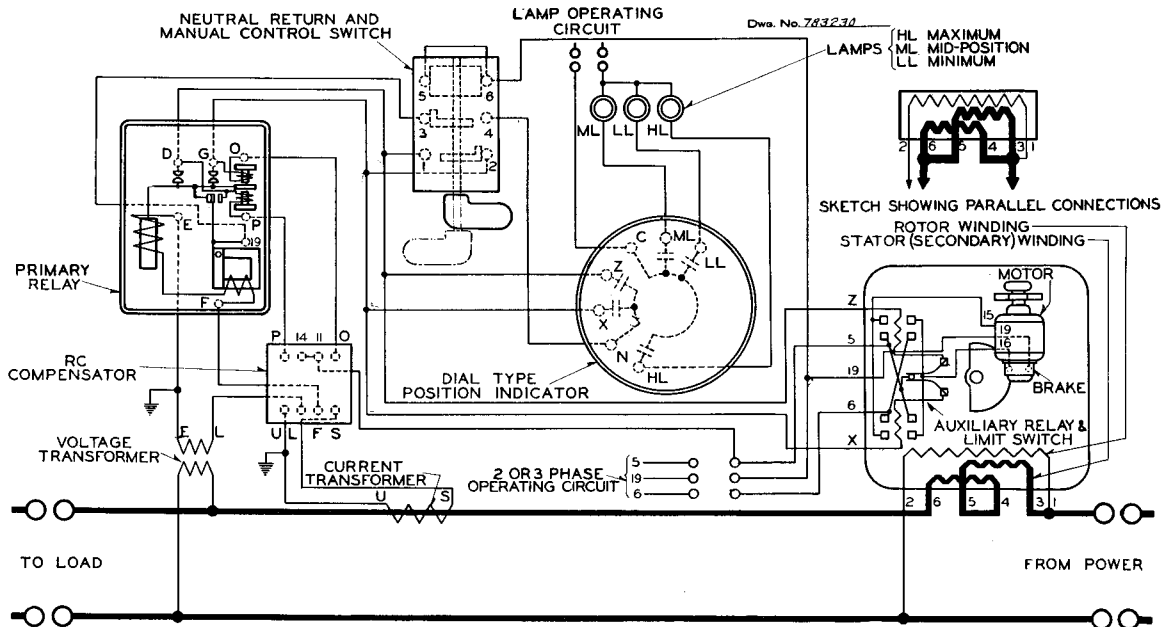
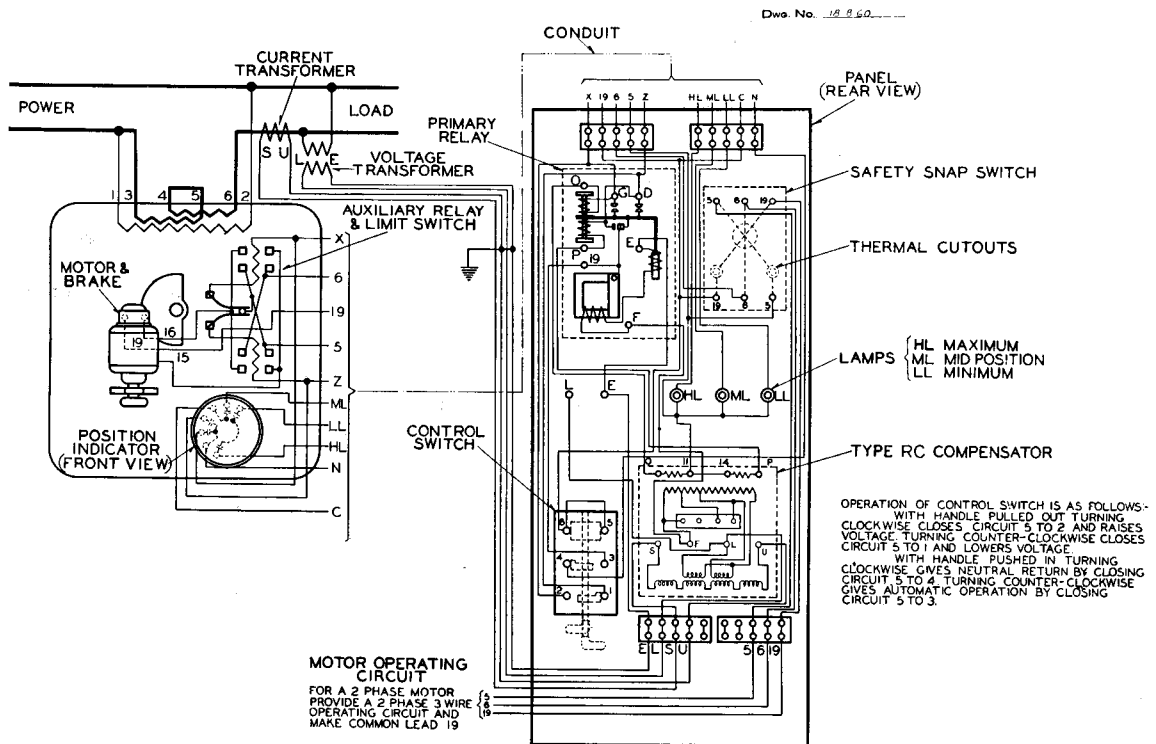
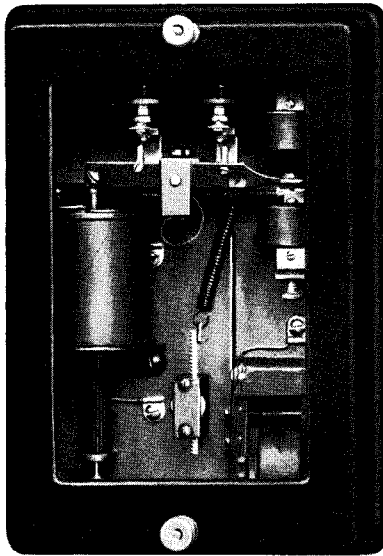
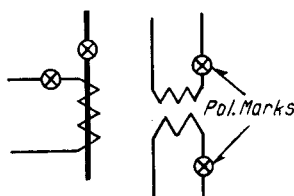

FIG. 1—DIAGRAM OF CONNECTIONS FOR AN AUTOMATIC SINGLE-PHASE INDUCTION REGULATOR
FIG. 2—DIAGRAM OF CONNECTIONS FOR AN AUTOMATIC SINGLE-PHASE INDUCTION REGULATOR WITH PANEL MOUNTED ACCESSORIES
FIG. 3—PRIMARY RELAY
FIG. 9
2. The complete equipment consists of the following apparatus which should be connected as per Fig. 1:
7. Referring to Fig. 1 the standard apparatus listed is plainly indicated. Fig. 2 employs the same apparatus with the accessories panel mounted. The primary relay (See Figs. 3 and 4) is connected through the compensator to the voltage transformer and is sensitive to voltage changes of the outgoing feeder. Under normal conditions the moving arm in the primary relay is horizontal. With a change in voltage the plunger in the relay coil moves up or down and closes either the left hand or right hand set of contacts thereby causing the electrically operated secondary relay to close its contacts and start the operating motor in such direction as to lower or raise the voltage on the feeder as may be required to correct the change and bring the voltage back to normal. The purpose of the compensator is to so affect the primary relay that it will raise the voltage with increasing load as may be required to take care of the increasing line drop and thus hold a constant voltage at the center of distribution of the feeder. See paragraphs 66 to 88.
11. With 110 volts across the primary relay and its resistance, (E to L, Fig. 1) the lever supporting contacts will be in the horizontal, or mid position. If the voltage on the feeder rises, the main coil of the primary relay will pull up the plunger, and as soon as the voltage rises to 111.5 volts, the left hand moving contact will touch the stationary contact. At this instant the lower compounding coil will be energized and will pull the moving contact more firmly against the stationary contact. The solenoid Z of the auxiliary relay also will be energized, closing the corresponding relay switch and will start the motor and turn the regulator to such a position as to bring the voltage back to normal. Due to the compounding, the primary relay contact
30. Connect the regulator and auxiliaries according to the diagram furnished with the regulator. Standard regulators using auxiliaries as listed on Page 3 should be connected according to diagrams, Fig. 1 or 2. If the leads are not brought through the bushing block in the same order as shown in the diagram, check to see if the same number of leads, similarly marked are available and connect them to agree with diagram disregarding the location in the bushing. Regulator diagrams as a rule do not show the various additional auxiliaries referred to on Page 3, but the use of these accessories is strongly recommended.
33. Checking Connections—After the regulator is completely connected and before throwing on power check the wiring carefully. The following tests, made in the order indicated, are recommended. These instructions refer specifically to standard regulators with cover mounted secondary relays as shown in diagrams, Fig. 1 and 2 but with slight modifications apply to all regulators.
38. Polarity of Current and Potential Transformers—All induction regulator diagrams are made so that the current and potential transformer connections are such that terminals of the same instantaneous polarity are as indicated in Fig. 9. It is immaterial whether the polarity markers are on the load or power side, so long as the secondaries are properly connected. For example, referring to Fig. 1, if the polarity marked (white button) primary lead of the current transformer is connected to "6" regulator lead, then the polarity marked secondary lead must connect to "S" of the compensator. If, however, the polarity marked prim-